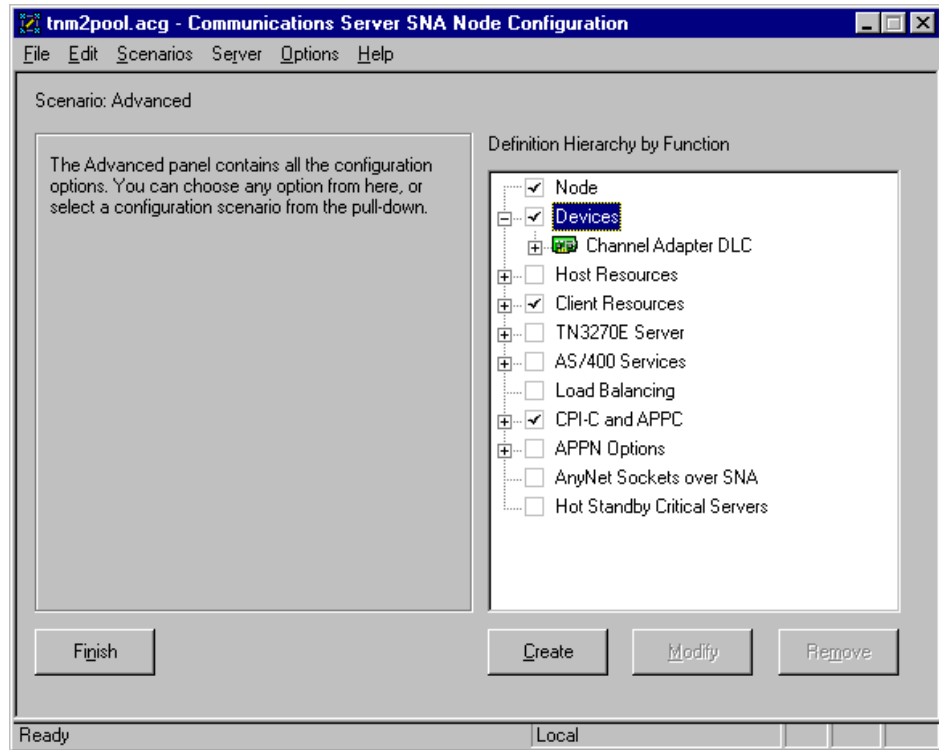

Figure 7-16. Channel Adapter listed under Devices
4. The main configuration screen will be displayed again. Data Link Control should now appear in the Device Hierarchy on the right side of the screen (Figure 7-16).